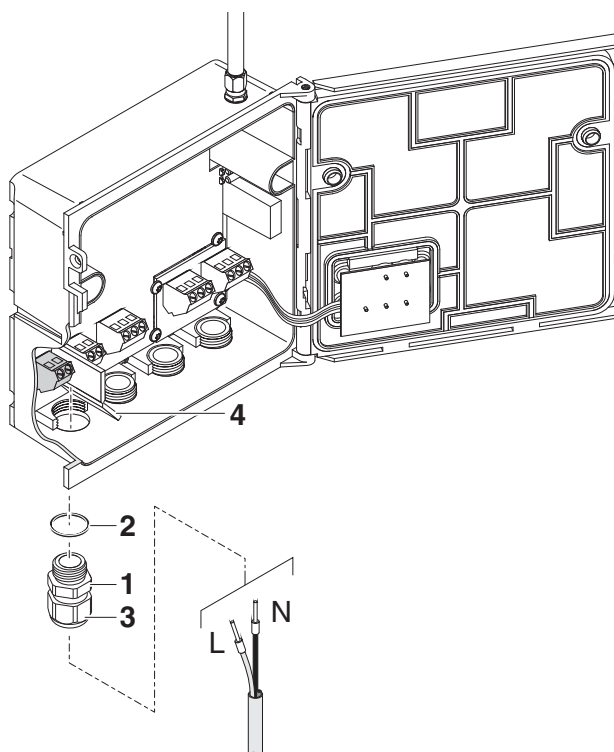

Fig. 3-8 Inserting the supply line.
| 6 | Screw a cable gland (pos. 1 in Fig. 3-8) with sealing ring (pos. 2) into the enclosure below the power supply connection. |